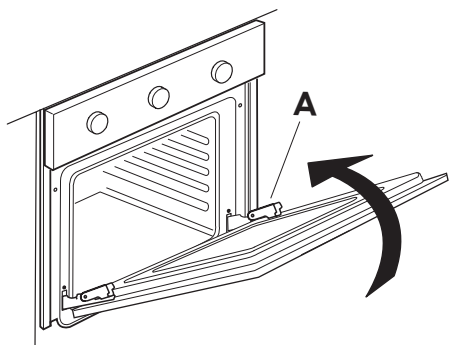

Fig. 2
3. Close the door as far as it will go (A), lift it up (B) and turn it (C) until it is released (D) (Fig. 2, 3, 4).